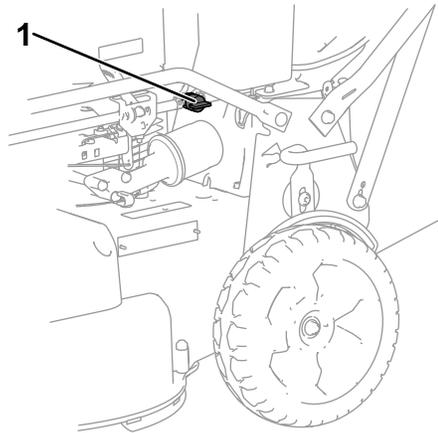

Figure 14
2. Open the fuel-shutoff valve (Figure 14).